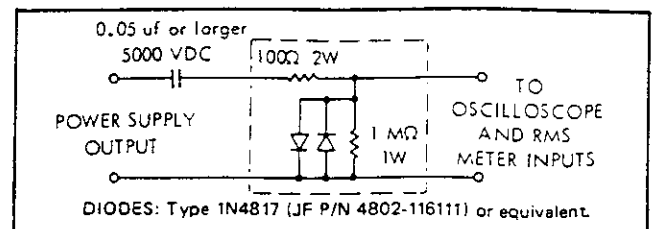

Figure 4-2. PROTECTION CIRCUIT
b. Connect the 5,000 volt blocking capacitor and the protection circuit shown in Figure 4-2 between the OUTPUT connector and the inputs to the Model 931B RMS voltmeter and the oscilloscope. This circuit protects the input circuitry of the oscilloscope and the voltmeter from a 3000 volt charge on the blocking capacitor if the Model 415B output is accidentally shorted.